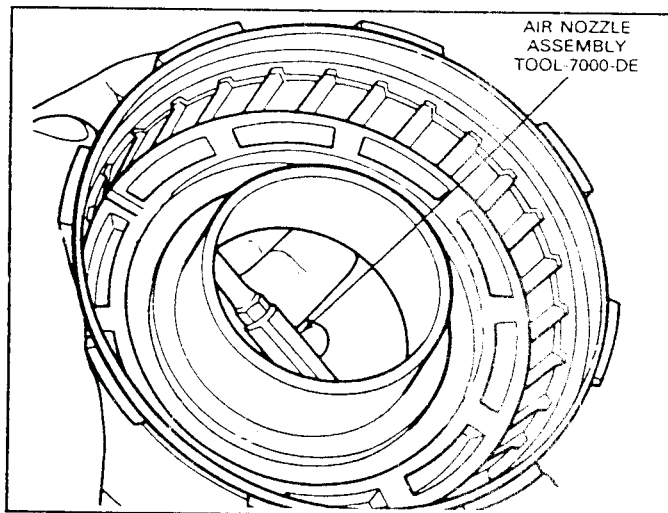

FIG. 42 Removing Reverse-High Clutch Piston
5. Apply air pressure to the piston apply hole in the clutch hub using TOOL-7000-DE or equivalent (Fig. 42) and remove the piston.